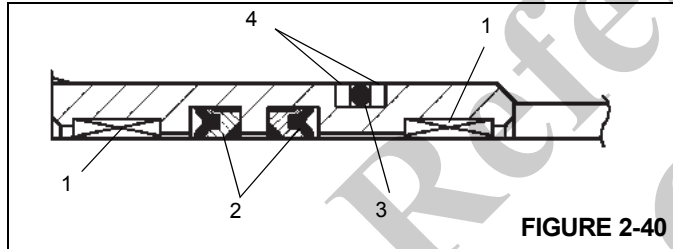

FIGURE 2-40
2. Install the O-ring and backup rings on the outside of the seal retainer and the deep Z rod seals and wear rings in the inside of the seal retainer Figure 2-40.